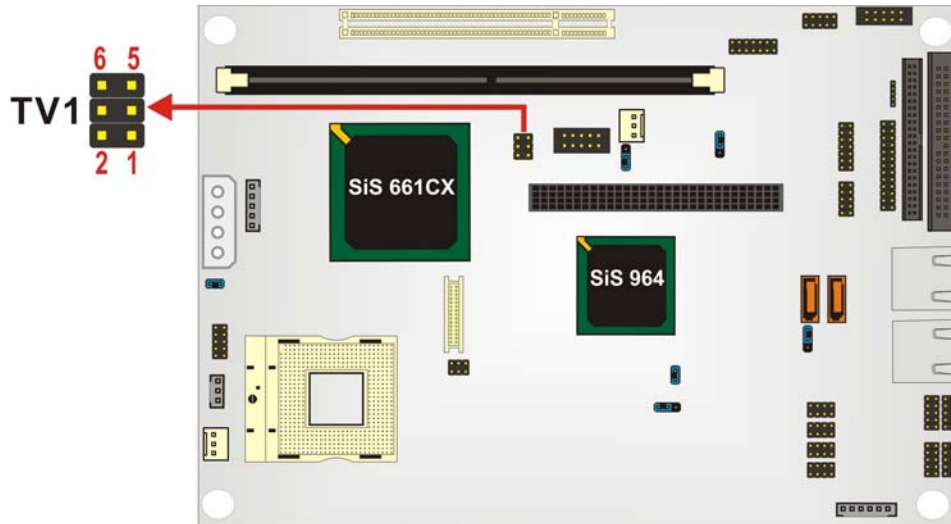

Figure 3-21: TV Connector Pinout Locations
- CN Location:** See Figure 3-21